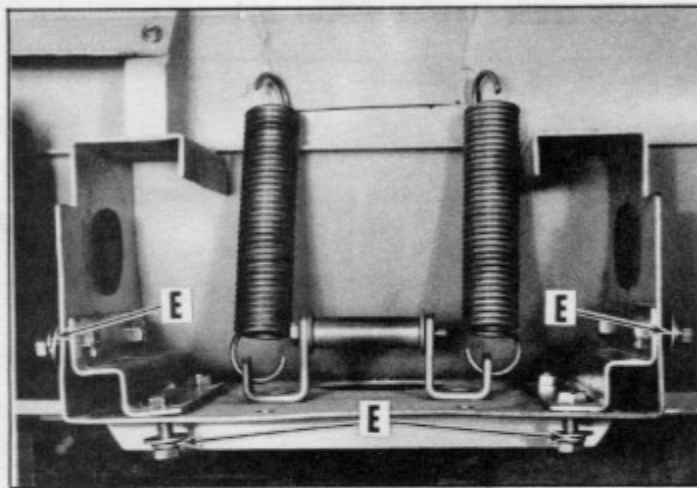

Fig. 3
Tighten the bolts (E) which hold the mounting bracket in position (Fig. 3). Tighten these bolts securely. **THIS IS IMPORTANT.**